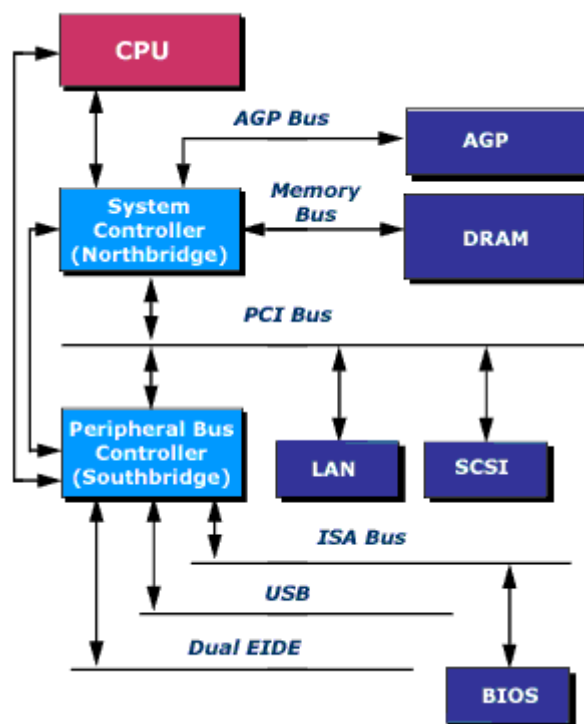

Figure 2: Top-level PC system architecture
Figure 2 shows the top-level system architecture for a modern desktop PC, and almost every motherboard follows this convention. The system architecture used to look much more complicated, but integration has reduced a chipset to just 2 main components--the North Bridge (NB) and the South Bridge (SB). The term "Bridge" comes from a reference to a device that connects multiple busses together. The